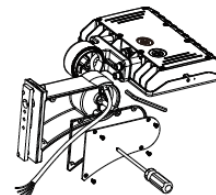

Fig. 11
2. Pass the input wire of the fixture through the first half of bracket (Fig. 11).